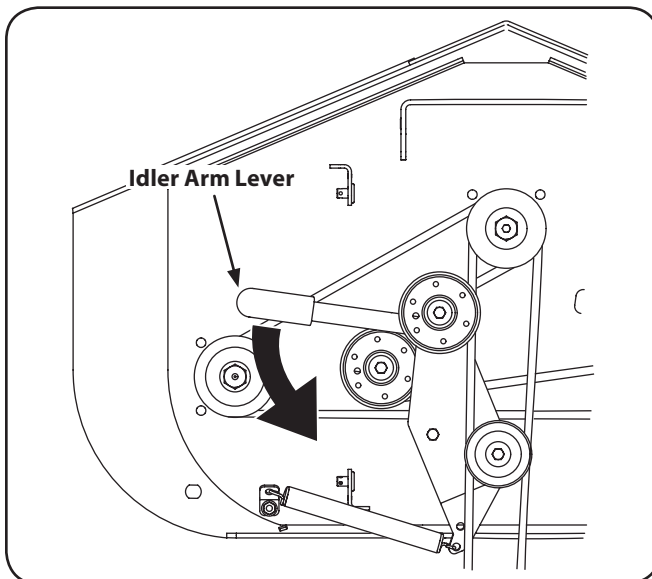

Figure 7-4
3. Using a $\frac{1}{2}$ " drive in the idler pulley bracket, turn the wrench towards the back of the tractor and slide the belt off the PTO pulley. See Fig. 7-4.